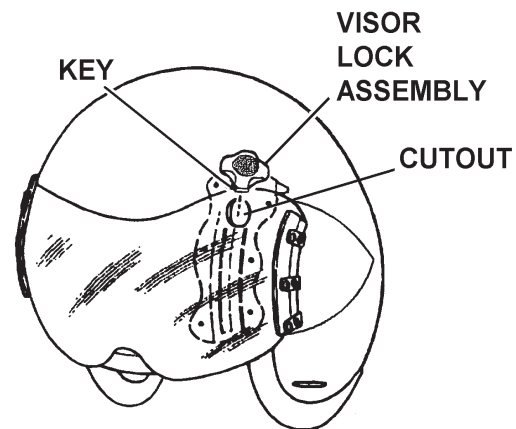

Figure 3-17. Installing Visor Lock Assembly
6. Referring to Figure 3-17, insert the visor lock assembly (with the key turned lengthwise) through the visor cutout and into the opening at the top of the visor locking guide.